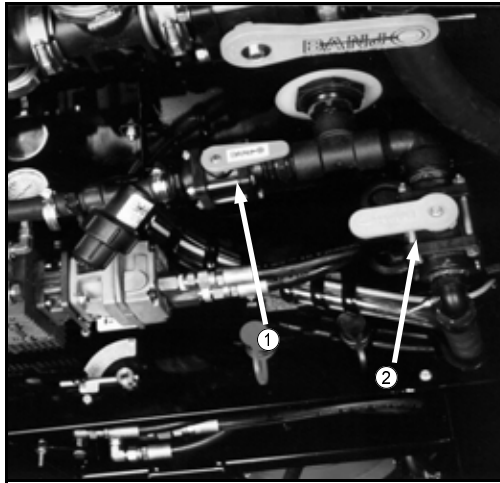

FIG 5.98
1. Open the ball valve on the bottom of the rinse tank (fig. 5.98, item 2).
2. If equipped with pressure washing system option, close rinse supply valve to washer pump (fig. 5.98, item 1).